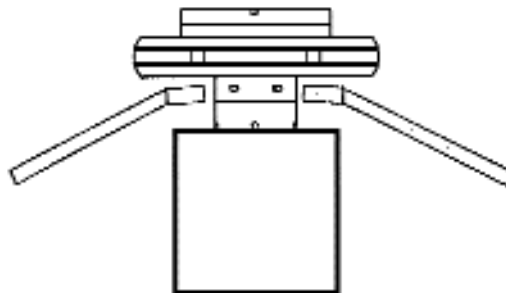

Figure 4: Impeller Removal Example
2) Apply force on the wrenches against the impeller to pop the impeller from the internal magnet. Placing the assembly on a raised surface may provide additional leverage (**See Figure 4.**)